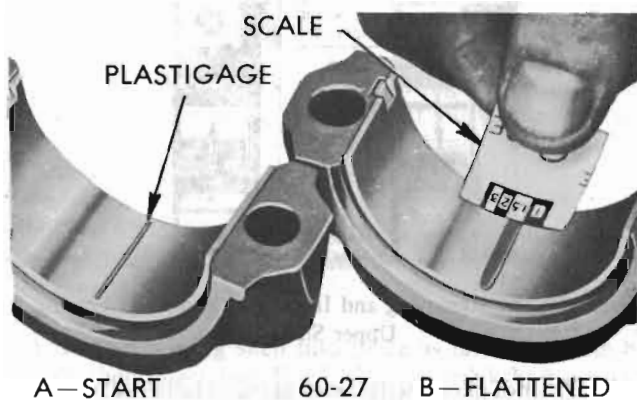

Figure 60-23--Checking Bearing with Plastigage
2. Place a piece of Plastigage lengthwise along the bottom center of the lower bearing shell (Figure 60-23, View A). Install cap with shell and tighten bolt nuts to 35 lb. ft. torque.
5. Using the scale printed on the Plastigage envelope, measure the flattened Plastigage at its widest point. The number within the graduation which most closely corresponds to the width of Plastigage indicates the bearing clearance in thousandths of an inch. See Figure 60-23, View B.